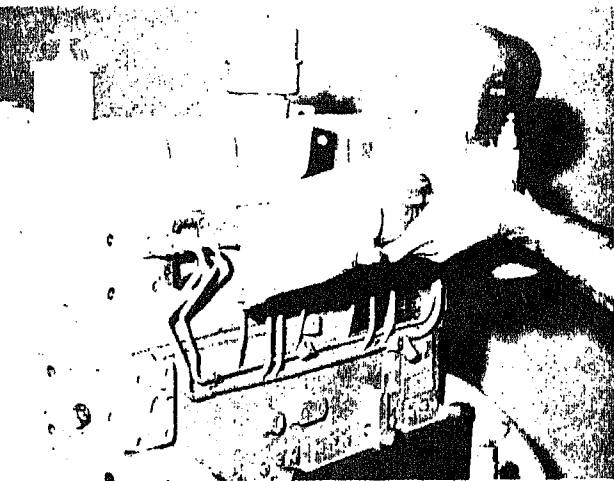

Fig. 0-19. Removing air intake manifold
2. Lift manifold from head, Fig. 0-19; discard gasket.